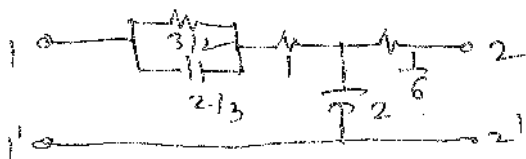

Figure 1
c) For the network shown in Fig. 1, find the functions  $y_{11}(s)$  and  $-y_{21}(s)$ . 8